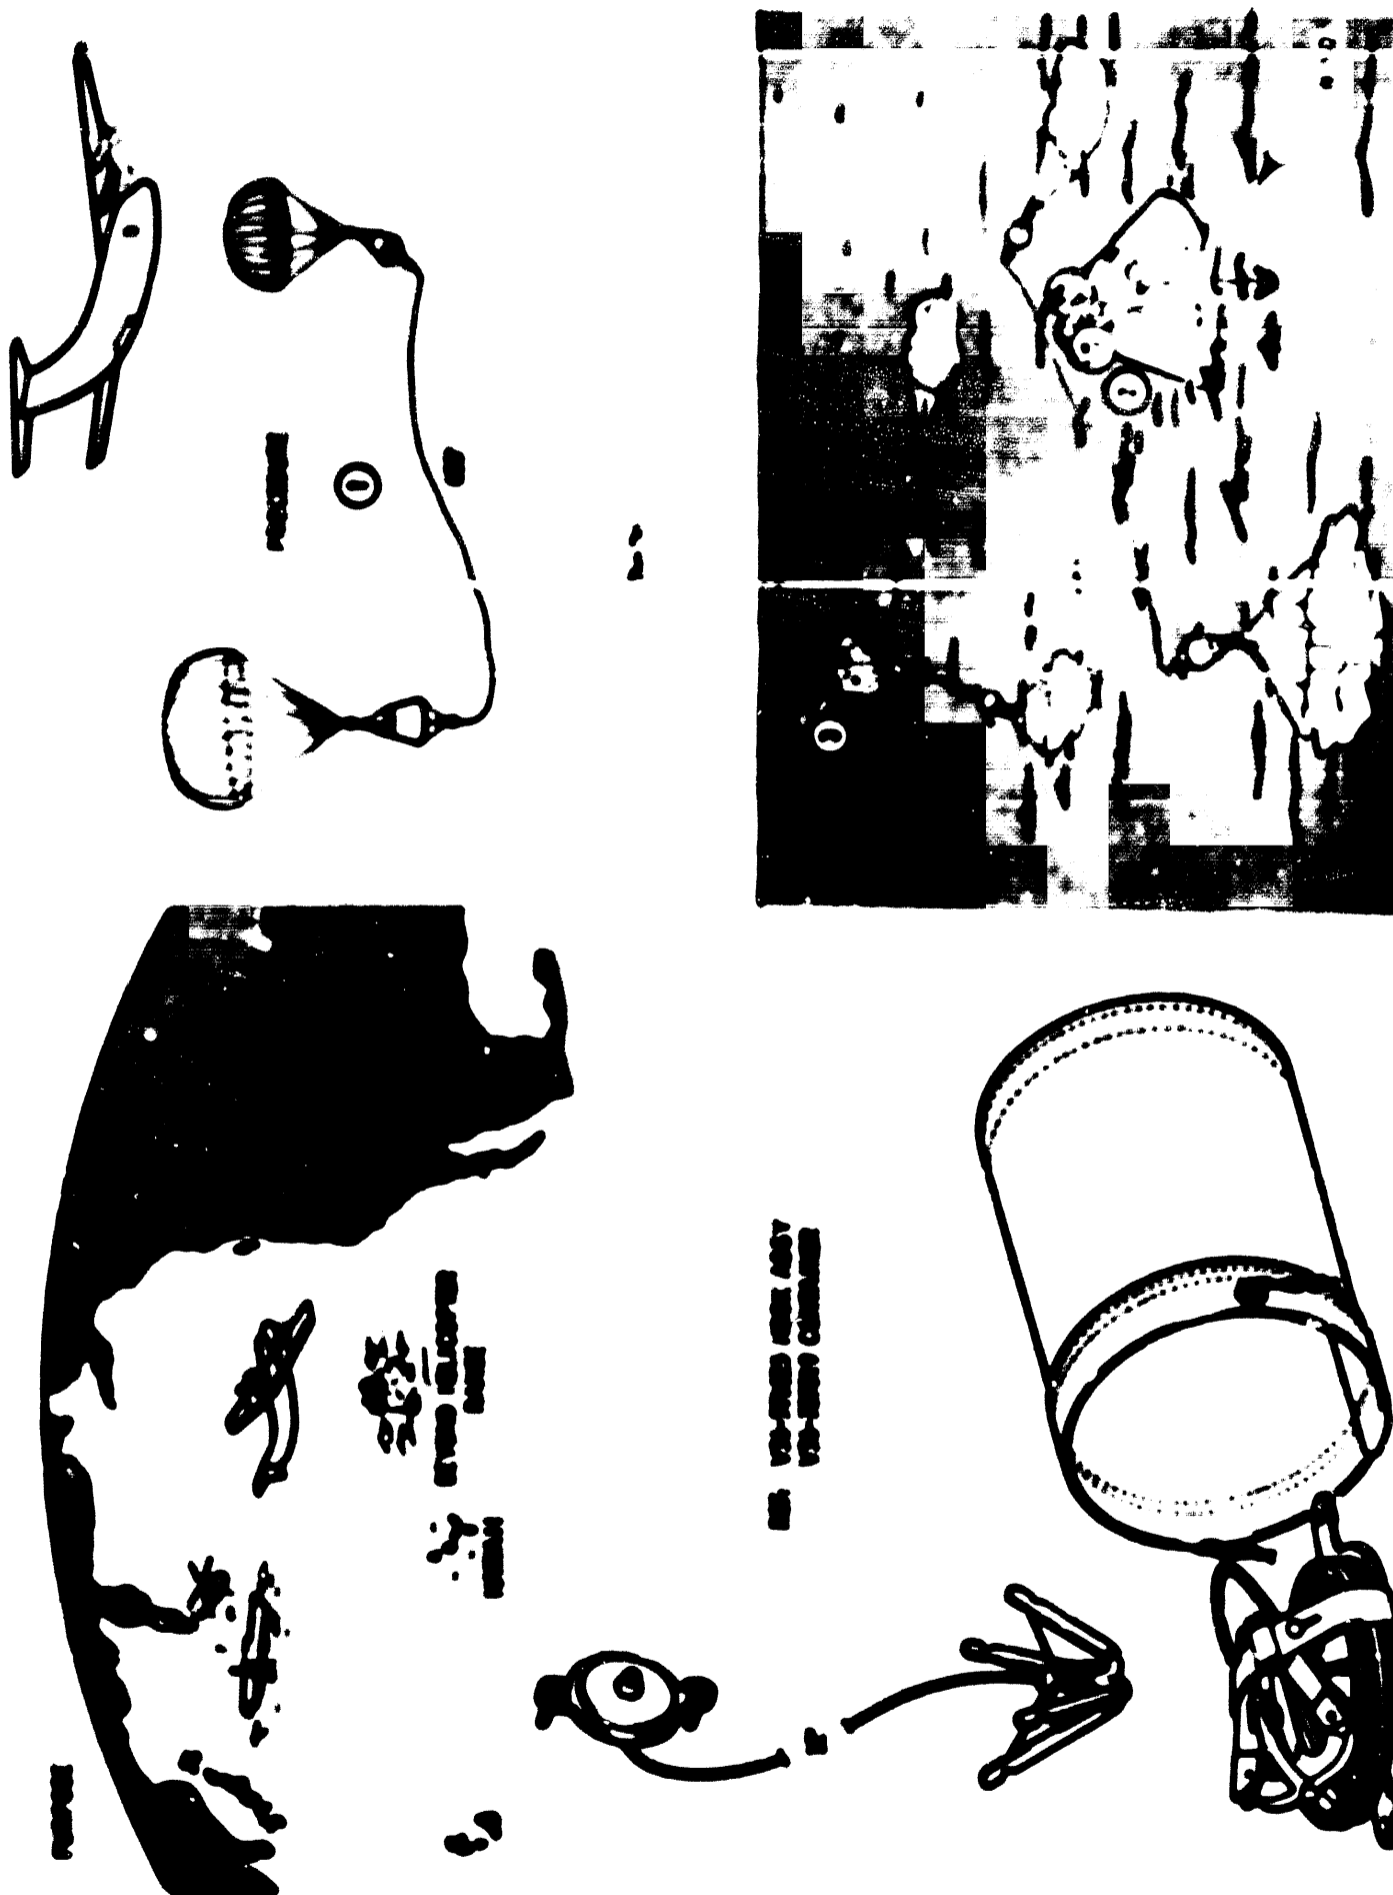

Figure 2.12-52. Seagging Line
2.12.9.4 Snagging Line (Figure 2.12-52).